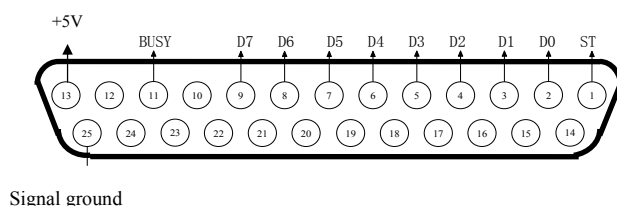

Figure 3-6 Printer Interface
1. Parallel printer interface adopts the standard 25-pin D type jack socket. Figure 3-6 shows the meaning of each pin. The indicator can be connected to printer by standard parallel interface printer cable. The 13th pin is +5V output which can be used to connect micro printer with peak current below 2A.